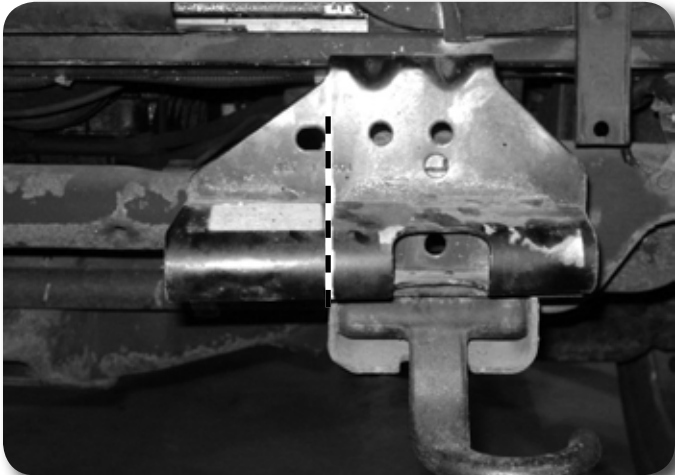

Figure 25
60. The factory front bumper mount brackets on the frame must be trimmed. Make a vertical cut line on the front mounts that is inline with the inside surface of the frame rail **Figure 25**. Cut the bumper mount off along the line. Paint any bare metal to prevent corrosion.